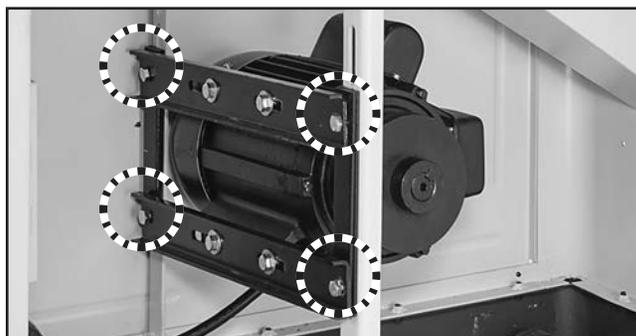

Figure 26. Motor mount bracket bolts.
15. Loosen four bolts/nuts securing motor mount brackets (see **Figure 26**), let motor slide down to tension belt, then retighten bolts/nuts.